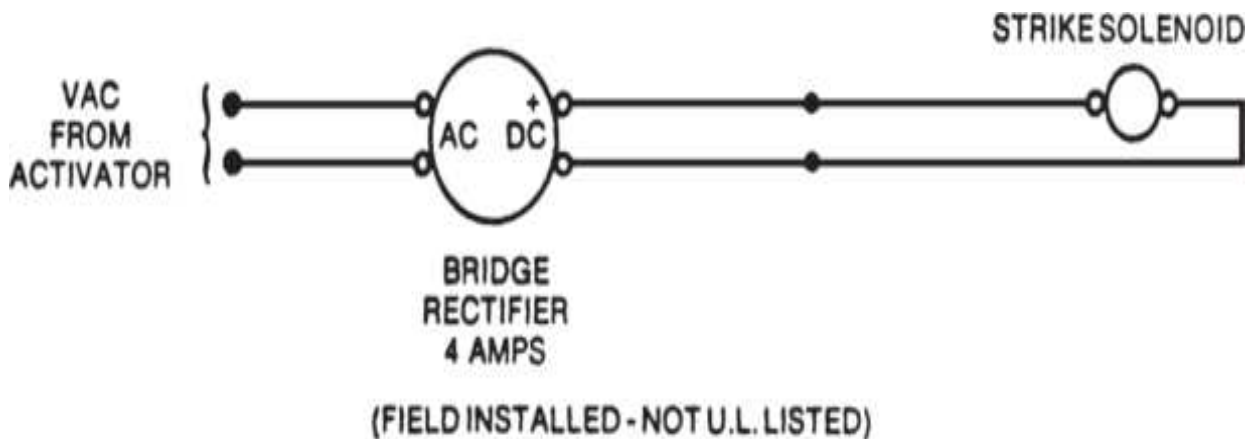

**Figure 19.30** Circuitry installation of a rectifier to alleviate a strike hum. (*Trine Consumer Products Division, Square "D" Company* )
*Correction* : Install the rectifier per the wiring diagram in Fig. 19.30 .